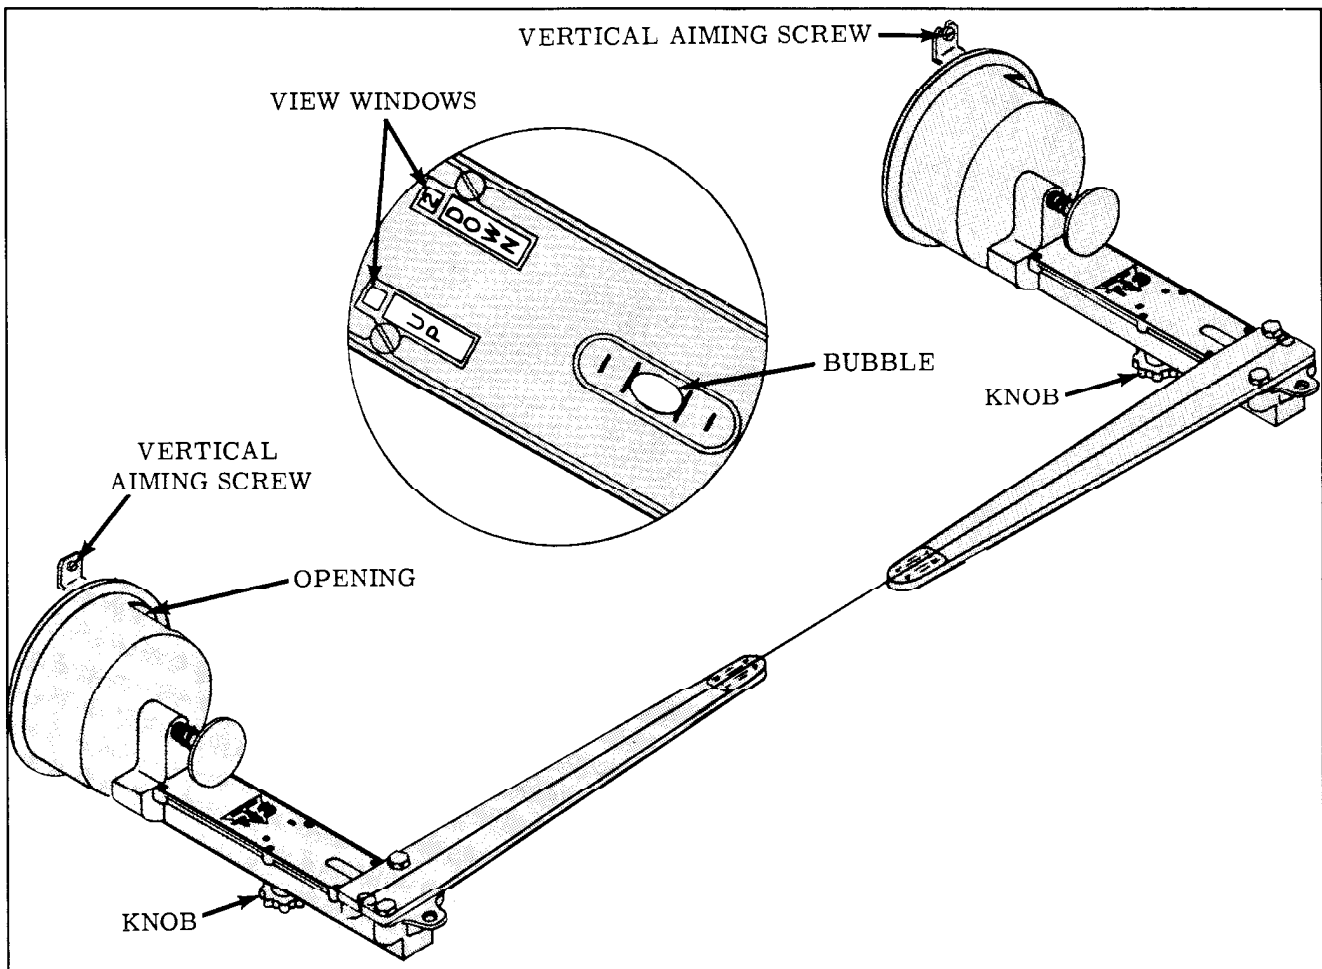

Fig. 13-91 Vertical Headlamp Aiming
- b. Turn headlamp vertical aim screw (Fig. 13-91) on the left-hand unit counterclockwise until the bubble is at the end of the level toward the T-3 unit. Then turn screw clockwise until the bubble is centered.